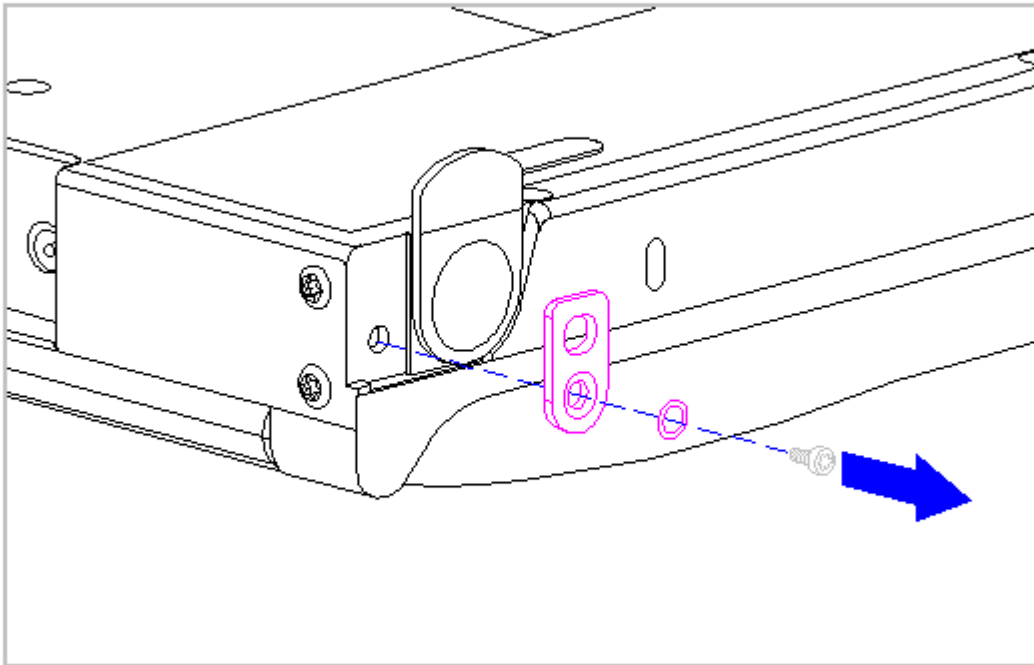

Figure 3-6. Removing the Handle Bracket
5. Remove the handle bracket (Figure 3-6).